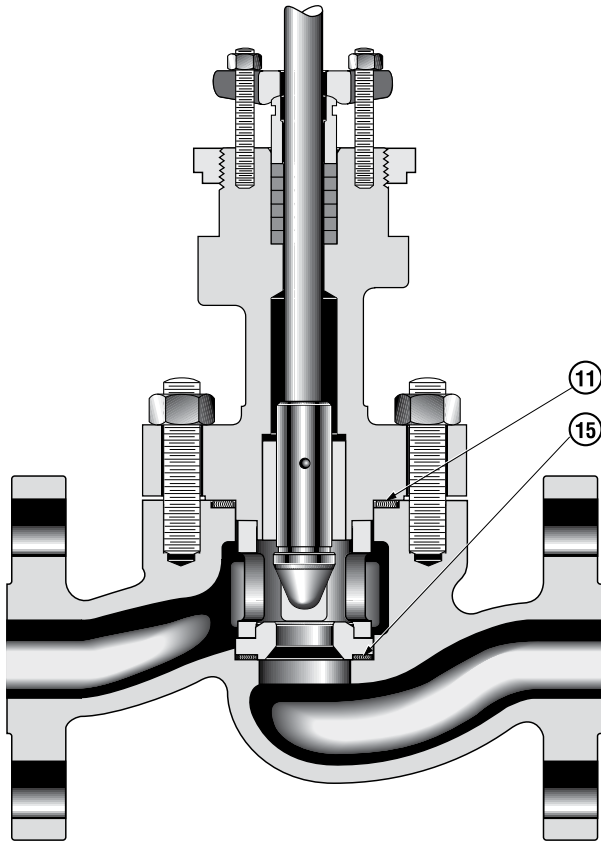

Figure 16 - 21000 Series
8.3 High Pressure & Angle Design (Figures 16 & 17)